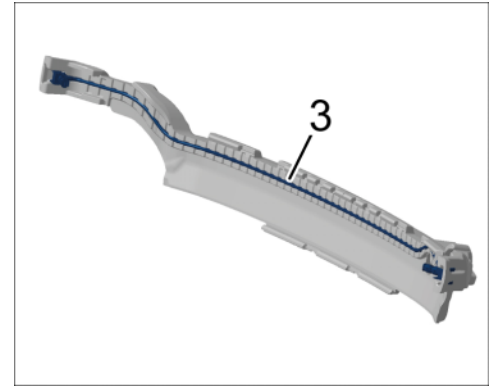

Figure 36
4.2.3 Remove pedestrian protection sensor (hose sensor) from impact absorber (⇒ *Figure 36*).